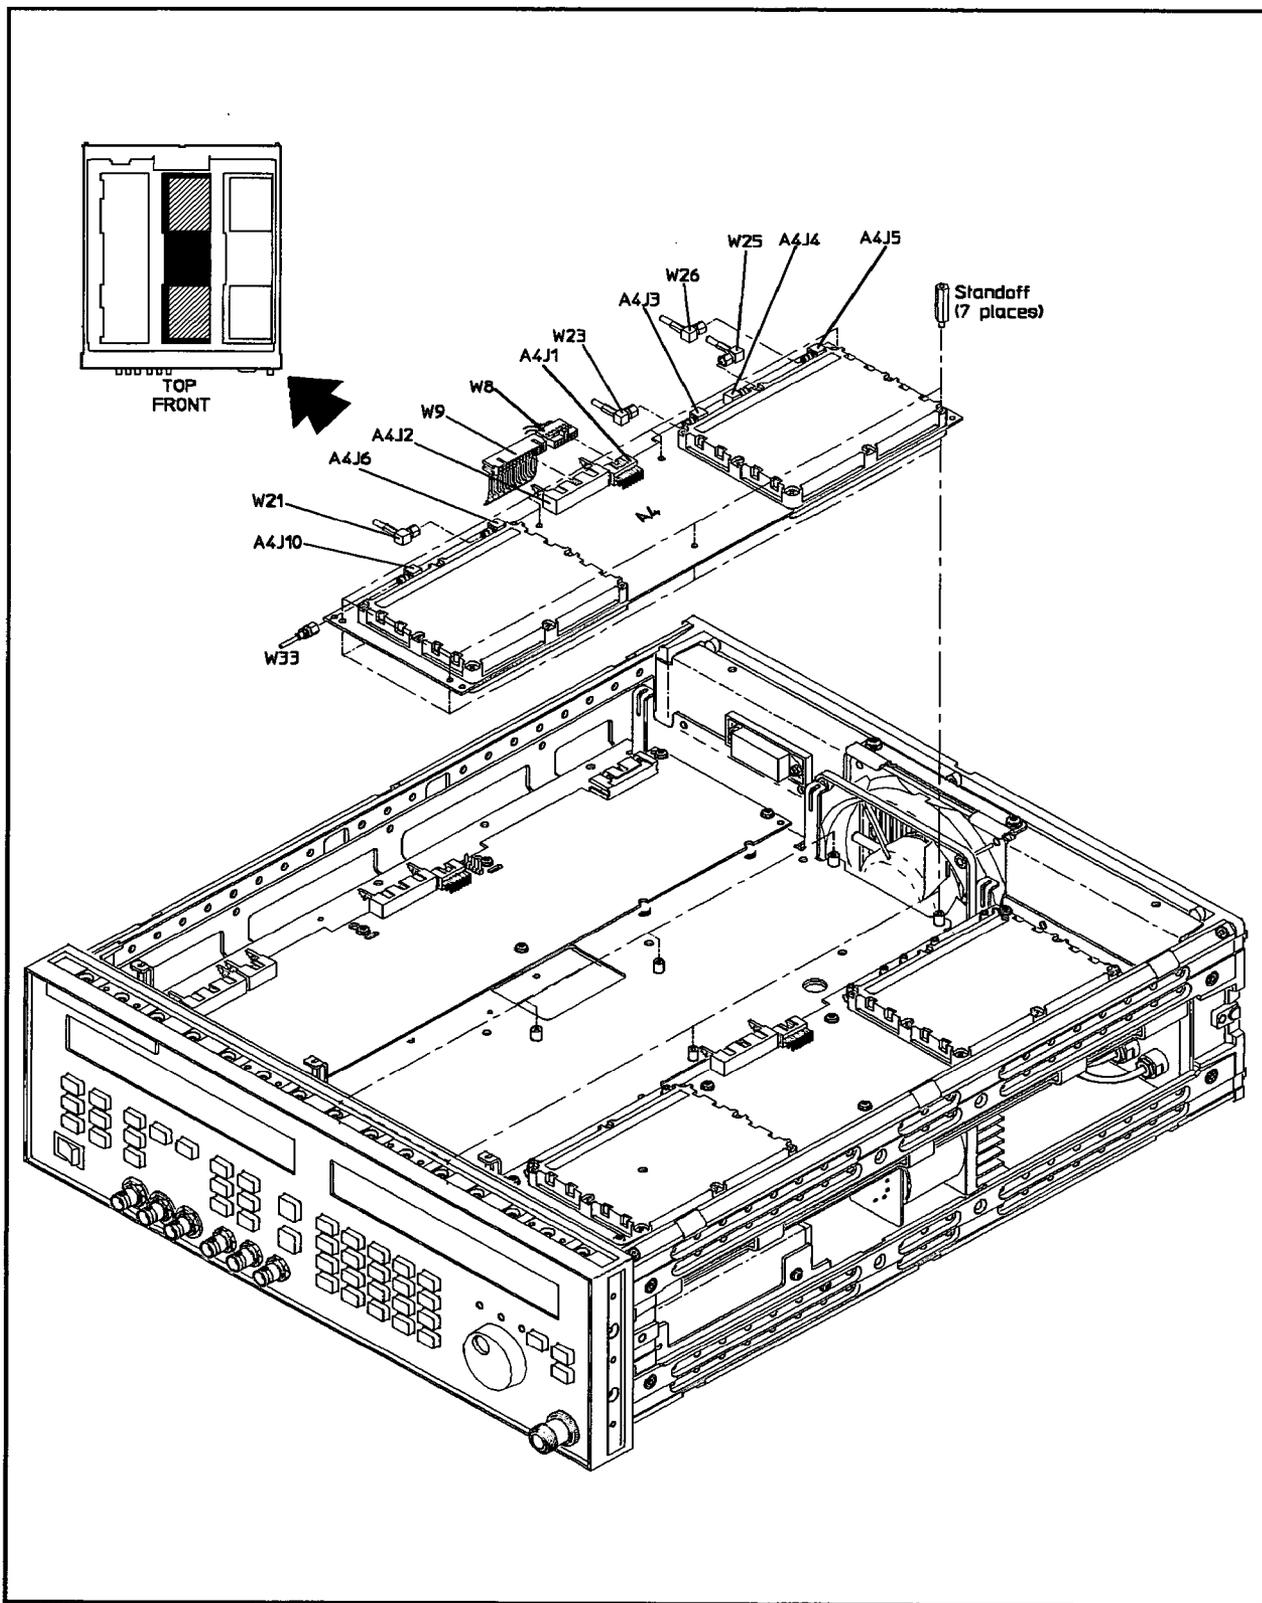

Figure 5-16. Divider and Modulation Board Assembly Removal
1. In the introduction to this chapter, refer to "Multi-wire Cables" and Figure 5-16. Then, disconnect the following cables:
2. Refer to "Flexible Coaxial Cables" and Figure 5-16. Then, disconnect the following cables using a 15/64 in open end wrench:
3. Refer to "Semi-Rigid Coaxial Cables" and Figure 5-16. Then, disconnect the following cable using a 5/16 in open end wrench: